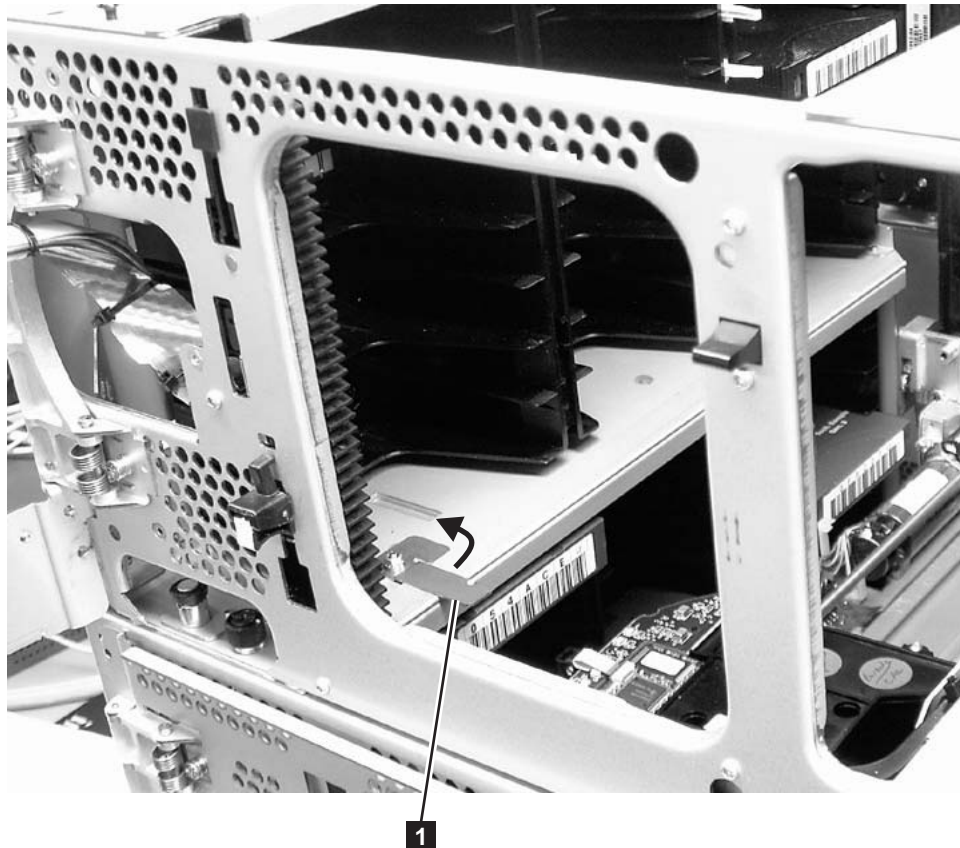

Figure 3-35. Releasing the picker assembly lock mechanism
3. Manually raise the picker assembly while you release the lock mechanism (**1** in Figure 3-35).